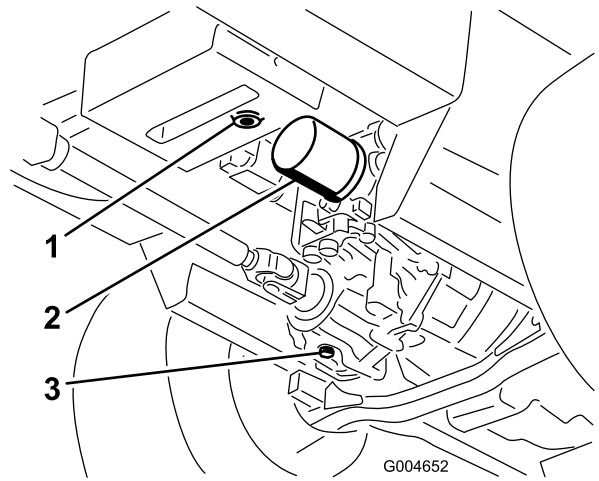

Figure 80
4. Clean the area around the hydraulic oil filter and remove it (Figure 80).
3. Place a large pan under the hydraulic reservoir and transmission case and remove the plugs, draining all of the hydraulic fluid (Figure 80).